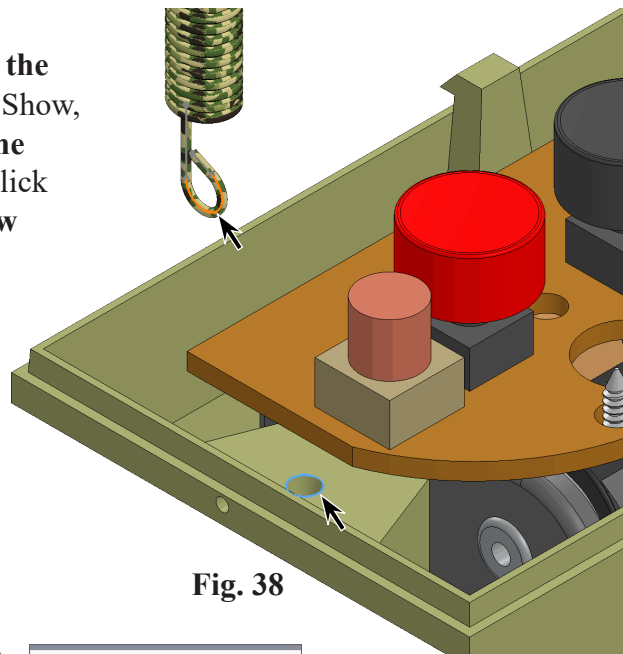

Fig. 38
Step 3. Click **cylindrical edge of Screw hole in screw boss in Bottom Transmitter** and **arc in Sketch1 in Antenna**, **Fig. 38**.